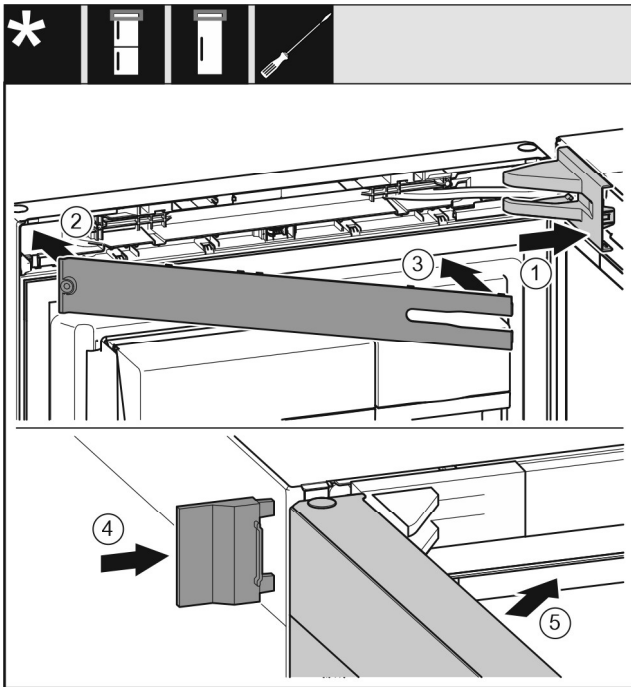

Fig. 50
- ▶ Position the swap bearing block cover Fig. 50 (1) and snap it in. You may need to push it carefully apart.
- ▶ Attach the cover Fig. 50 (2).
- ▶ Cover Fig. 50 (3)
- ▶ Slide on the outer cover Fig. 50 (4).
- ▶ Close the top door Fig. 50 (5).